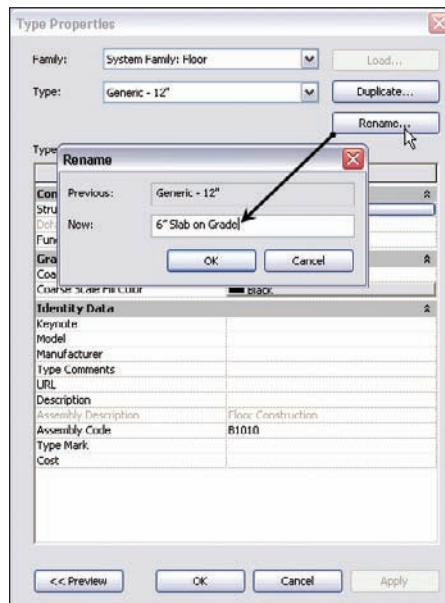

FIGURE 6.4 Renaming the current floor. You will never have a Generic 12" floor in your model, so it is a good idea not to keep this floor around.
6. Click the Rename button, as shown in Figure 6.4.